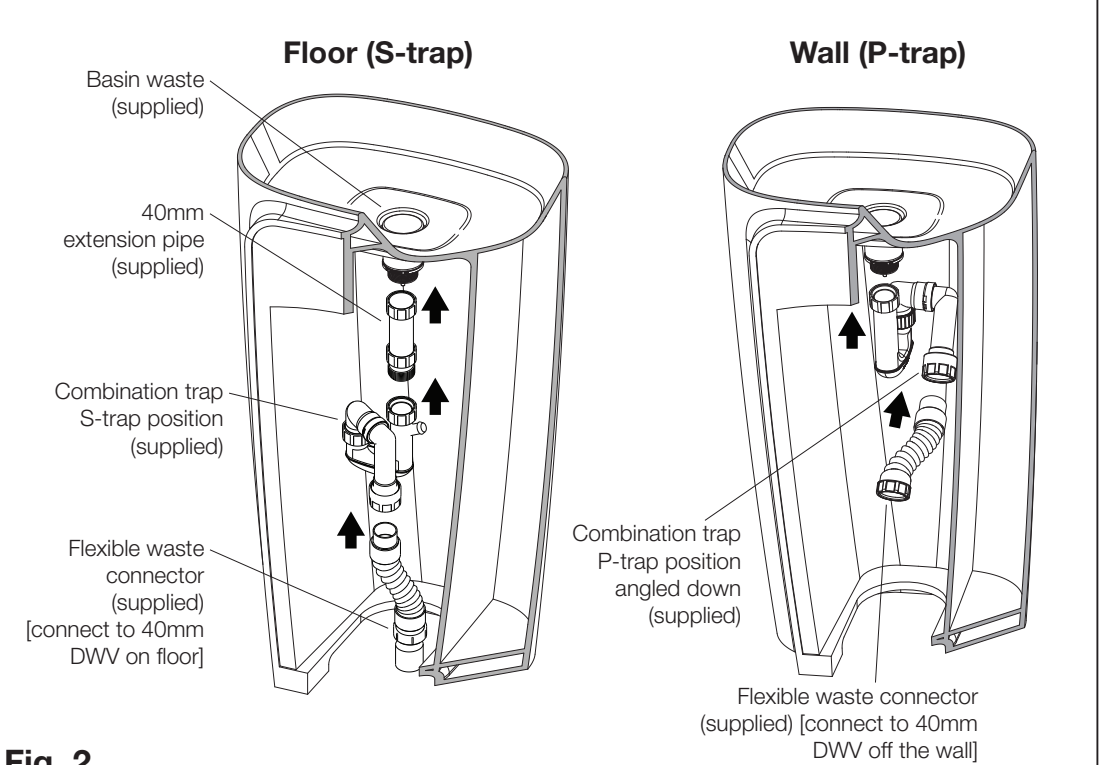

Fig. 2
4. **For S-trap Installation:** Adjust the Combination trap to the S-trap, as shown in Fig. 2. Position the basin off the wall to gain access to floor waste connection. Connect the 40mm Extension Pipe to the basin waste, connect the inlet of Combination S-trap to the 40mm Extension Pipe. Then connect the male end of the flexible connector with outlet of S-trap and other end to the 40mm PVC DWV in the floor, as detailed in Fig. 2. Ensure the flexible waste connector is not kinked. Ensure all joints are fully tightened.
**For P-trap Installation:** Adjust the Combination trap to the P-trap position, as shown in Fig. 2. Position the basin off the wall to gain access to the wall waste connection. Connect the inlet of Combination P-trap to basin waste, then connect the male end of the flexible connector with outlet of P-trap and other end to the 40mm PVC DWV on the wall, as detailed in Fig. 2. Ensure the flexible waste connector is not kinked. Ensure all joints are fully tightened.